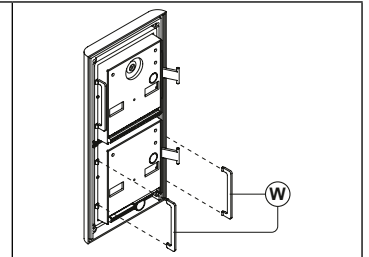

Fig. 3
Fit the anti-tampering locks (W) as shown in **Fig. 3**.